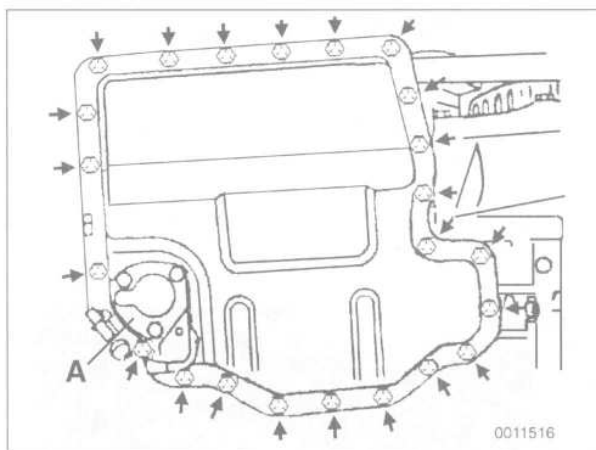

Fig. 8. Oil pan lower section mounting bolts (arrows) on M60 engine. Oil level sensor shown at A.
7. Remove oil pan lower section. See Fig. 8.